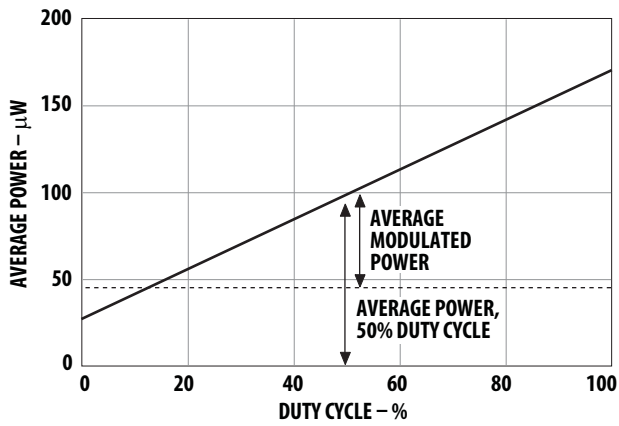

Figure 3. Average modulated power
2. To allow the LED to switch at high speeds, the recommended drive circuit modulates LED light output between two non-zero power levels. The modulated (useful) power is the difference between the high and low level of light output power (transmitted) or input power (received), which can be measured with an average power meter as a function of duty cycle (see Figure 3). Average Modulated Power is defined as one half the slope of the average power versus duty cycle: